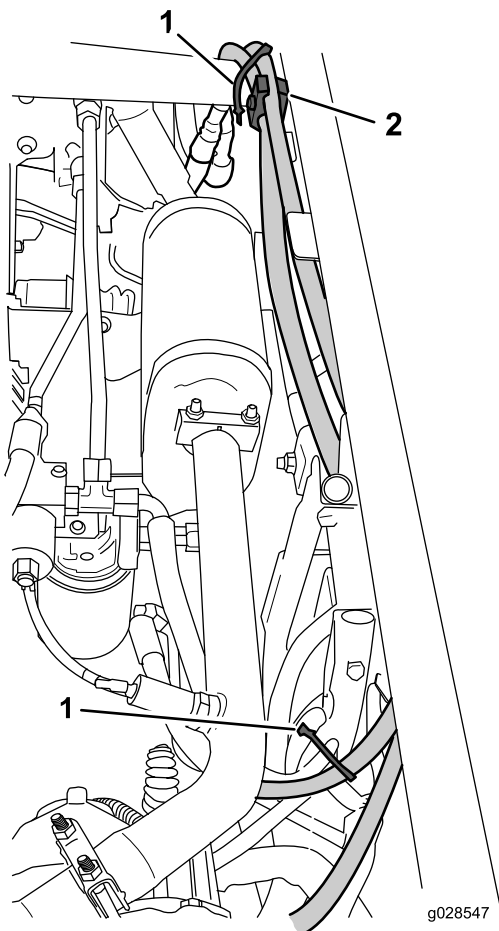

Figure 7
- Route the hoses and secure them with cable ties, a tube clamp, and a clamp bolt as shown in Figure 7.